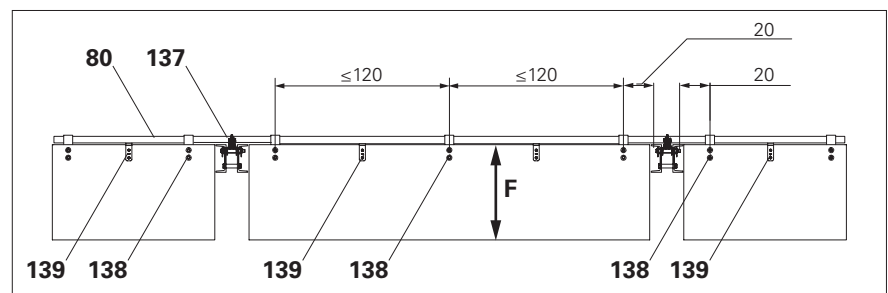

Fig. B2.06a
- Take into account the fibre direction (**F**) of the surface layer! (Fig. B2.06a)